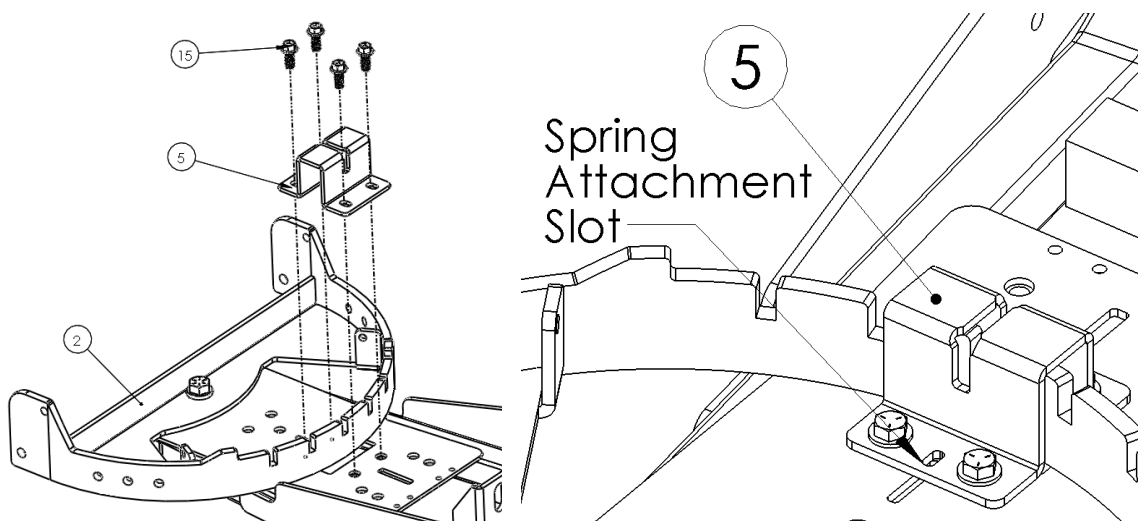

Figure 2
- 2) Attach the Pivot Lever Support Bracket to the Lift Arm using four 3/8" x 1.00" Flange Bolts as shown in **Figure 2**. Note the Spring Attachment Slot on the Pivot Lever Support Bracket should face forward.